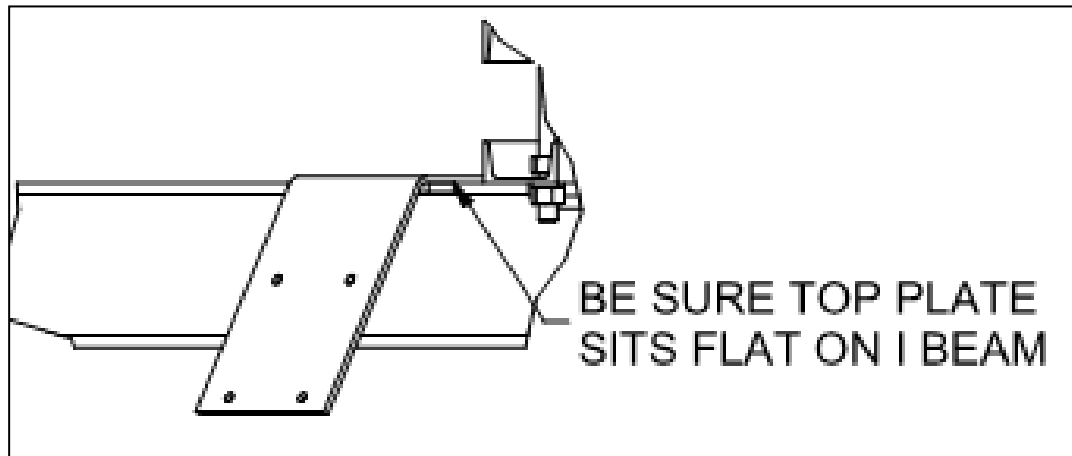

Figure 2
3. Make sure that the plate is sitting flat on I beam, captured between the welded plates as shown in figure 2.